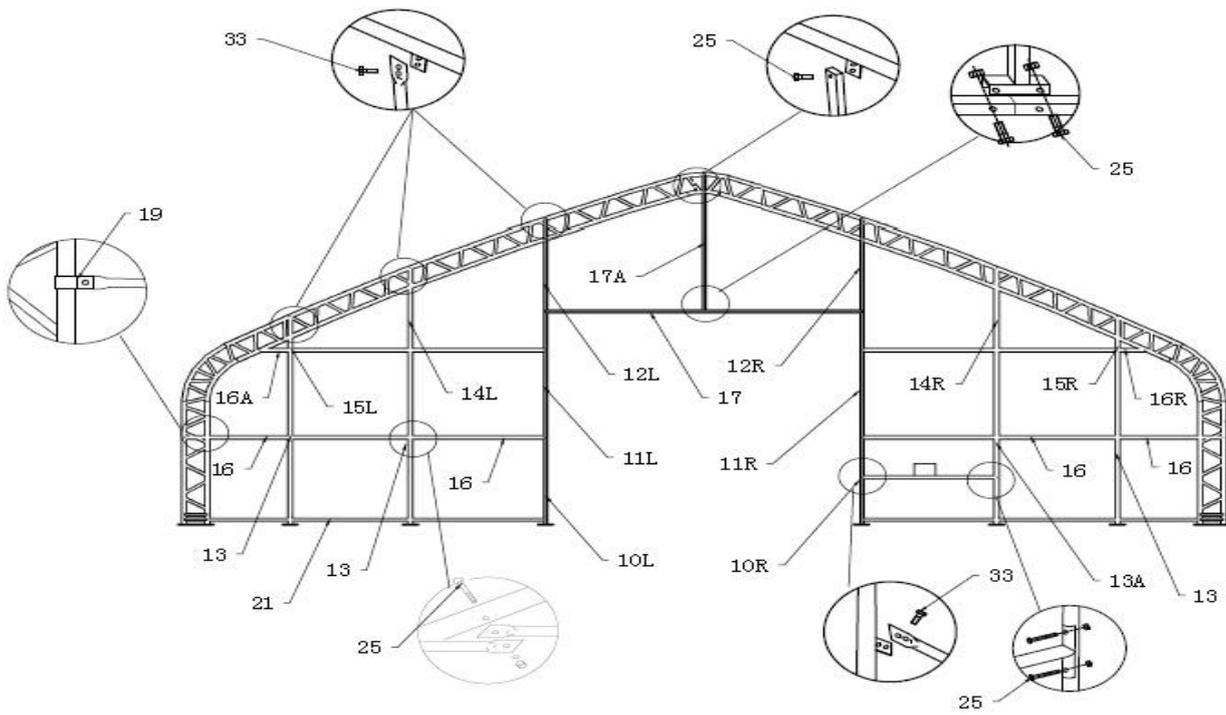

Figure 5
1. Inset the tubes in door (Part NO.26) into front and back Mechanical door through the pockets on covers (see Figure 5), assemble the front door by using Bolt 10x80 (NO.25), and Clip (No.19), make the cover well fold to the frame and tension the cover, finally tidy the front door covers by using Rope (No.29).